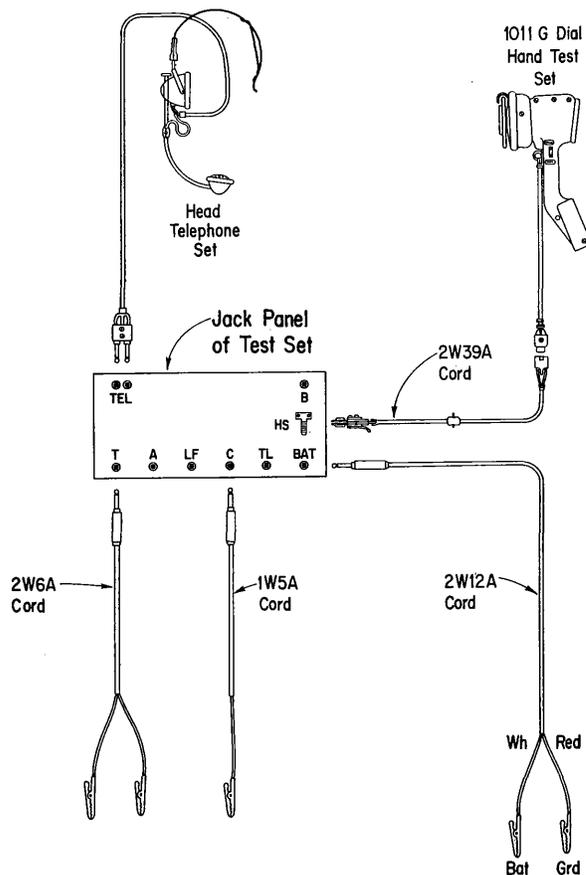

Fig. 2
- 1 Establish connections shown in Fig. 2 using either dial hand test set or head telephone set.